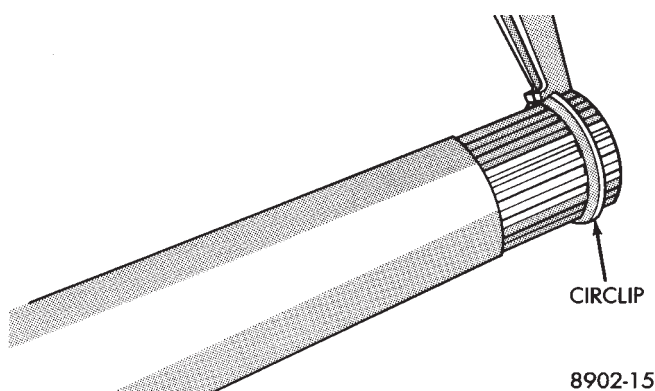

Fig. 4 Remove Circlip
(4) If bent or damaged, carefully pry wear sleeve from C/V joint machined ledge.
(5) Remove circlip from shaft groove and discard (Fig. 4). A replacement boot package will include this circlip.
(6) Unless the shaft is damaged and needs replacing, **do not remove** the heavy spacer ring from the shaft, G.K.N. only (Fig. 4).
(7) With joint separated from the interconnecting shaft proceed as follows: